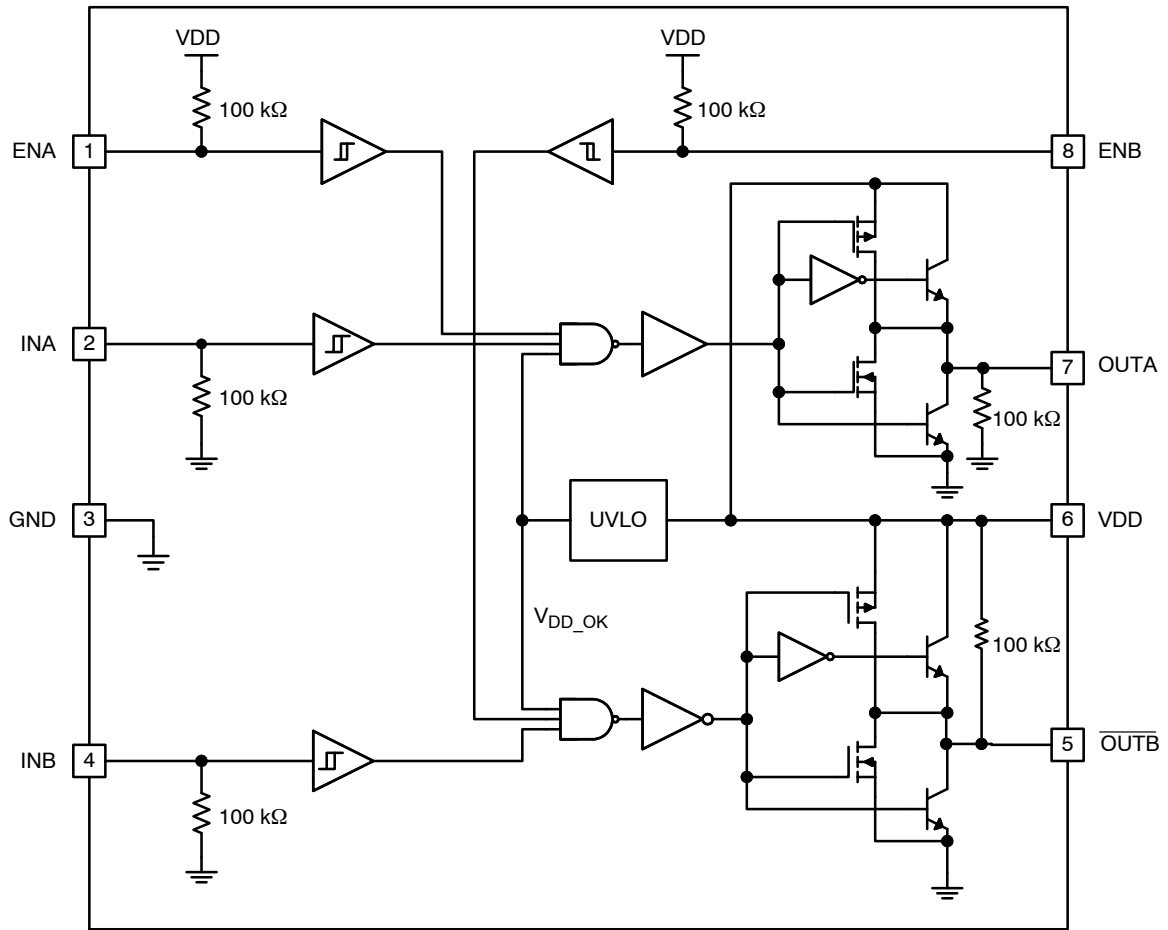

Figure 3. Block Diagram
11. For any inverting inputs pulled low, non-inverting inputs pulled high, or outputs driven high, static  $I_{DD}$  increases by the current flowing through the corresponding pull-up/down resistor shown in the block diagram in Figure 3.